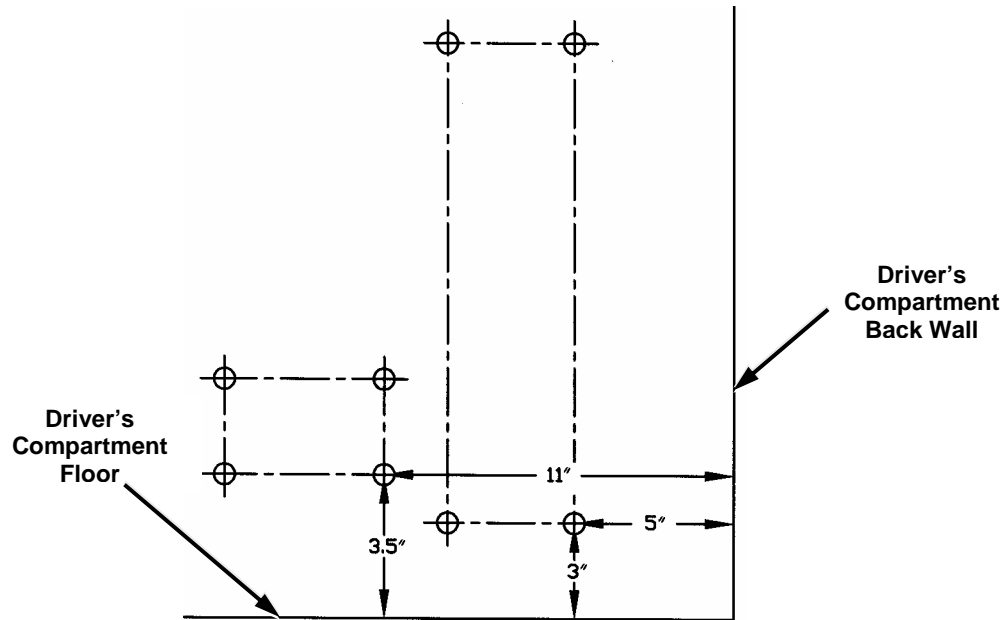

Figure 3-2. New Installation Holes.
Step 10 below applies to Figure 3-2.
2. Install the NBC system equipment, electrical components, hoses, air purifier and heater per TM 5-235-262-20-2, Section XIV, Air Purifier Installation, at new locations in holes per Figure 3-2.